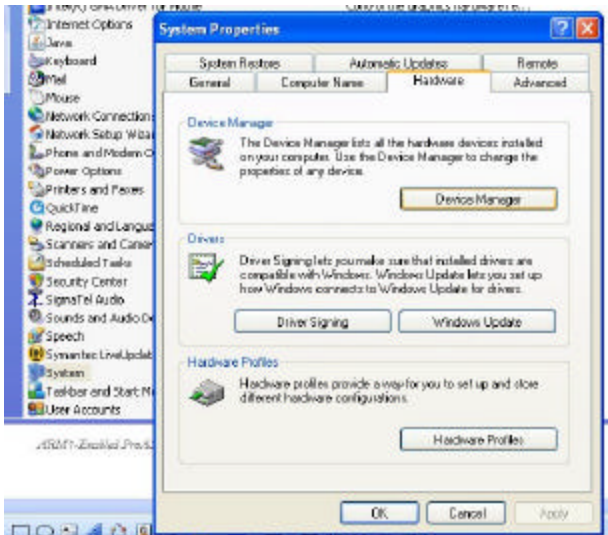

Figure 3.1- Finding the COM Port
- a. On the PC, click the Start button and open up the “Device Manager” by navigating to “Control Panel -> System”. Then click the “Hardware” tab, then the “Device Manager” button as shown in figure 3.1.